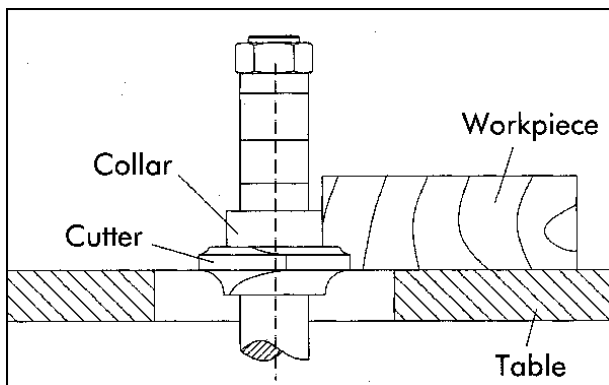

FIGURE 38
2. When the collar is used above the cutter, as shown in Figure 38, the cut can not be seen, but this method offers an advantage in that the cut is not affected by slight variations in the thickness of the stock. Also, accidental lifting of the workpiece will not gouge the workpiece; simply repeat the operation to correct the mistake.